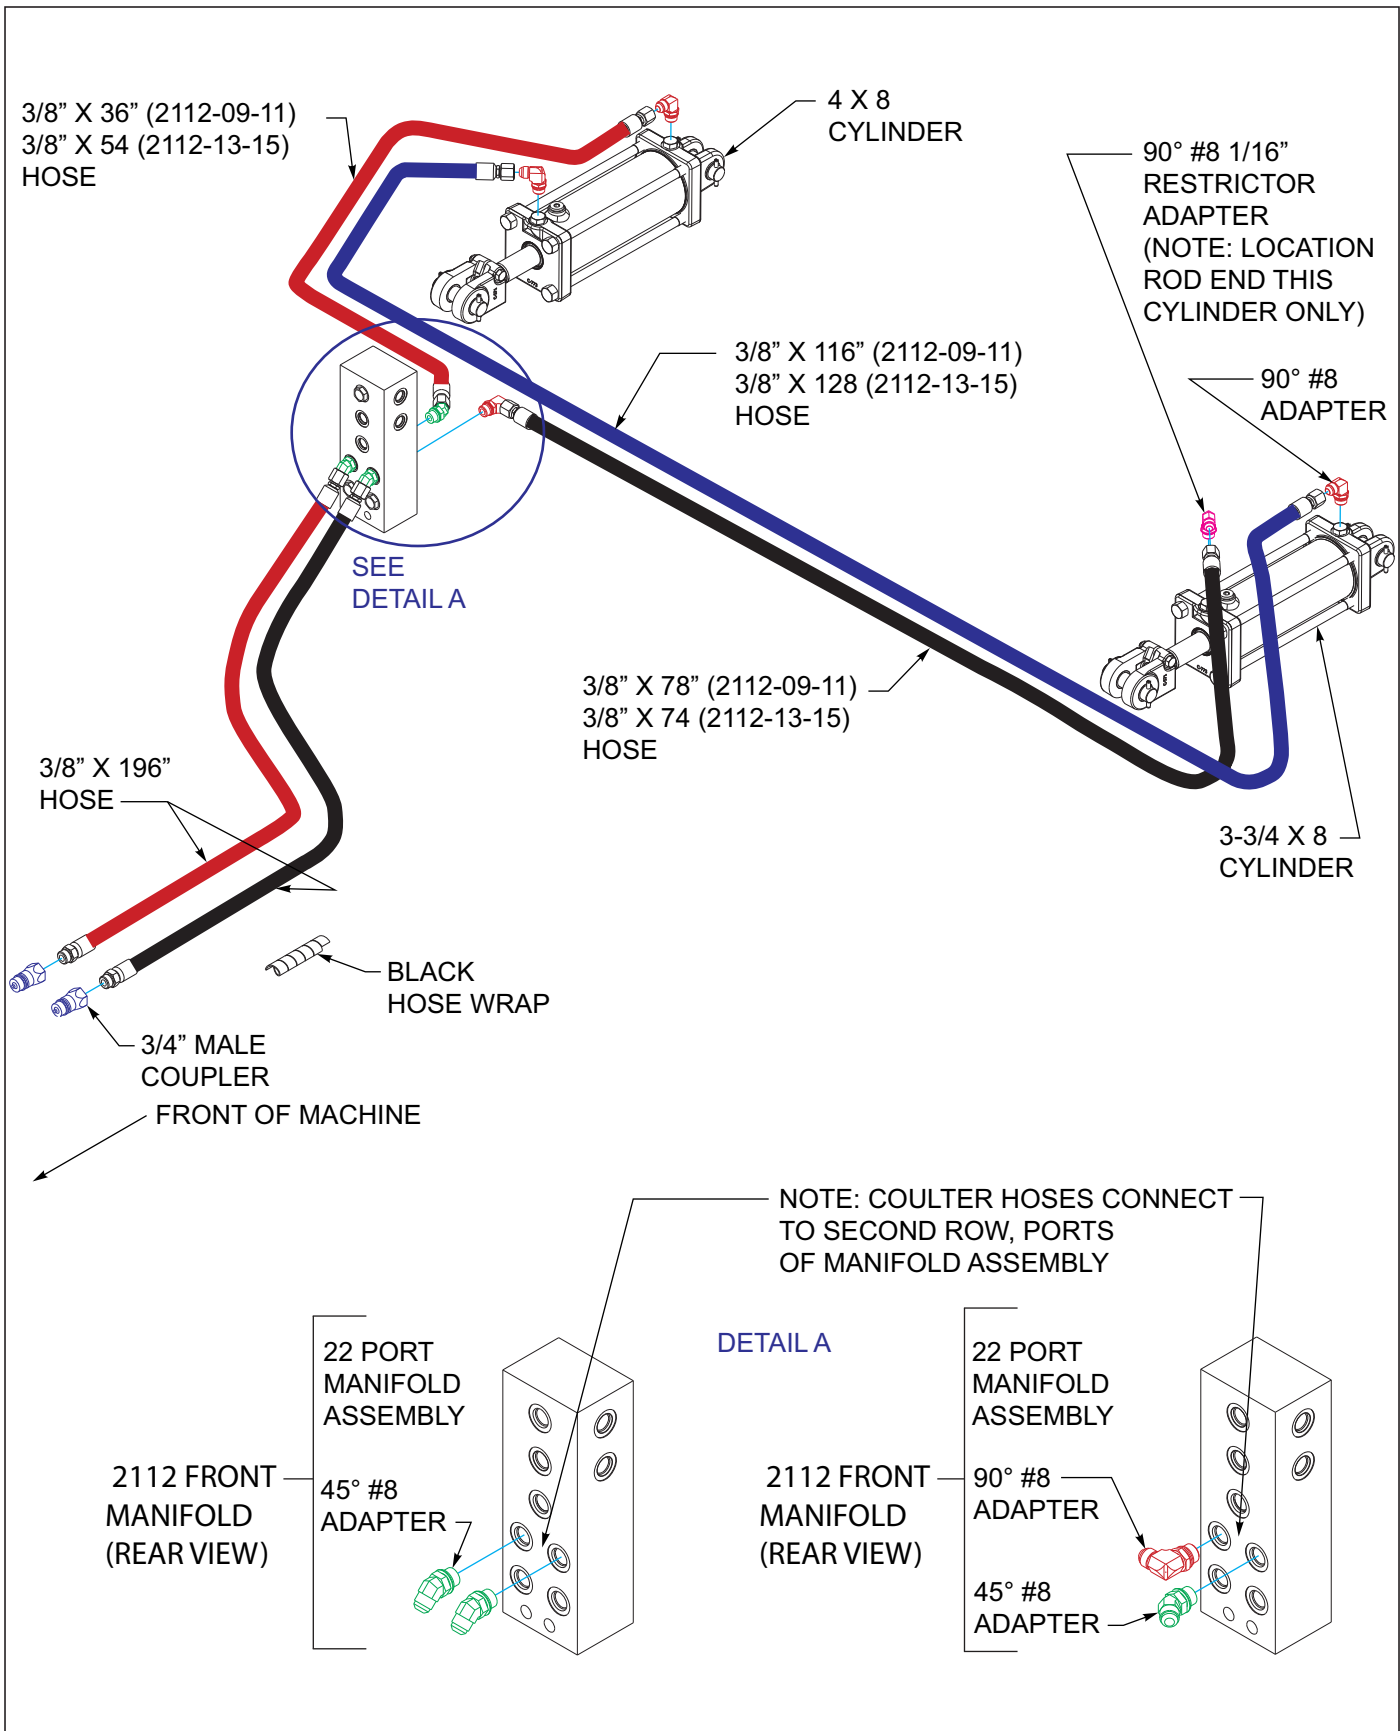
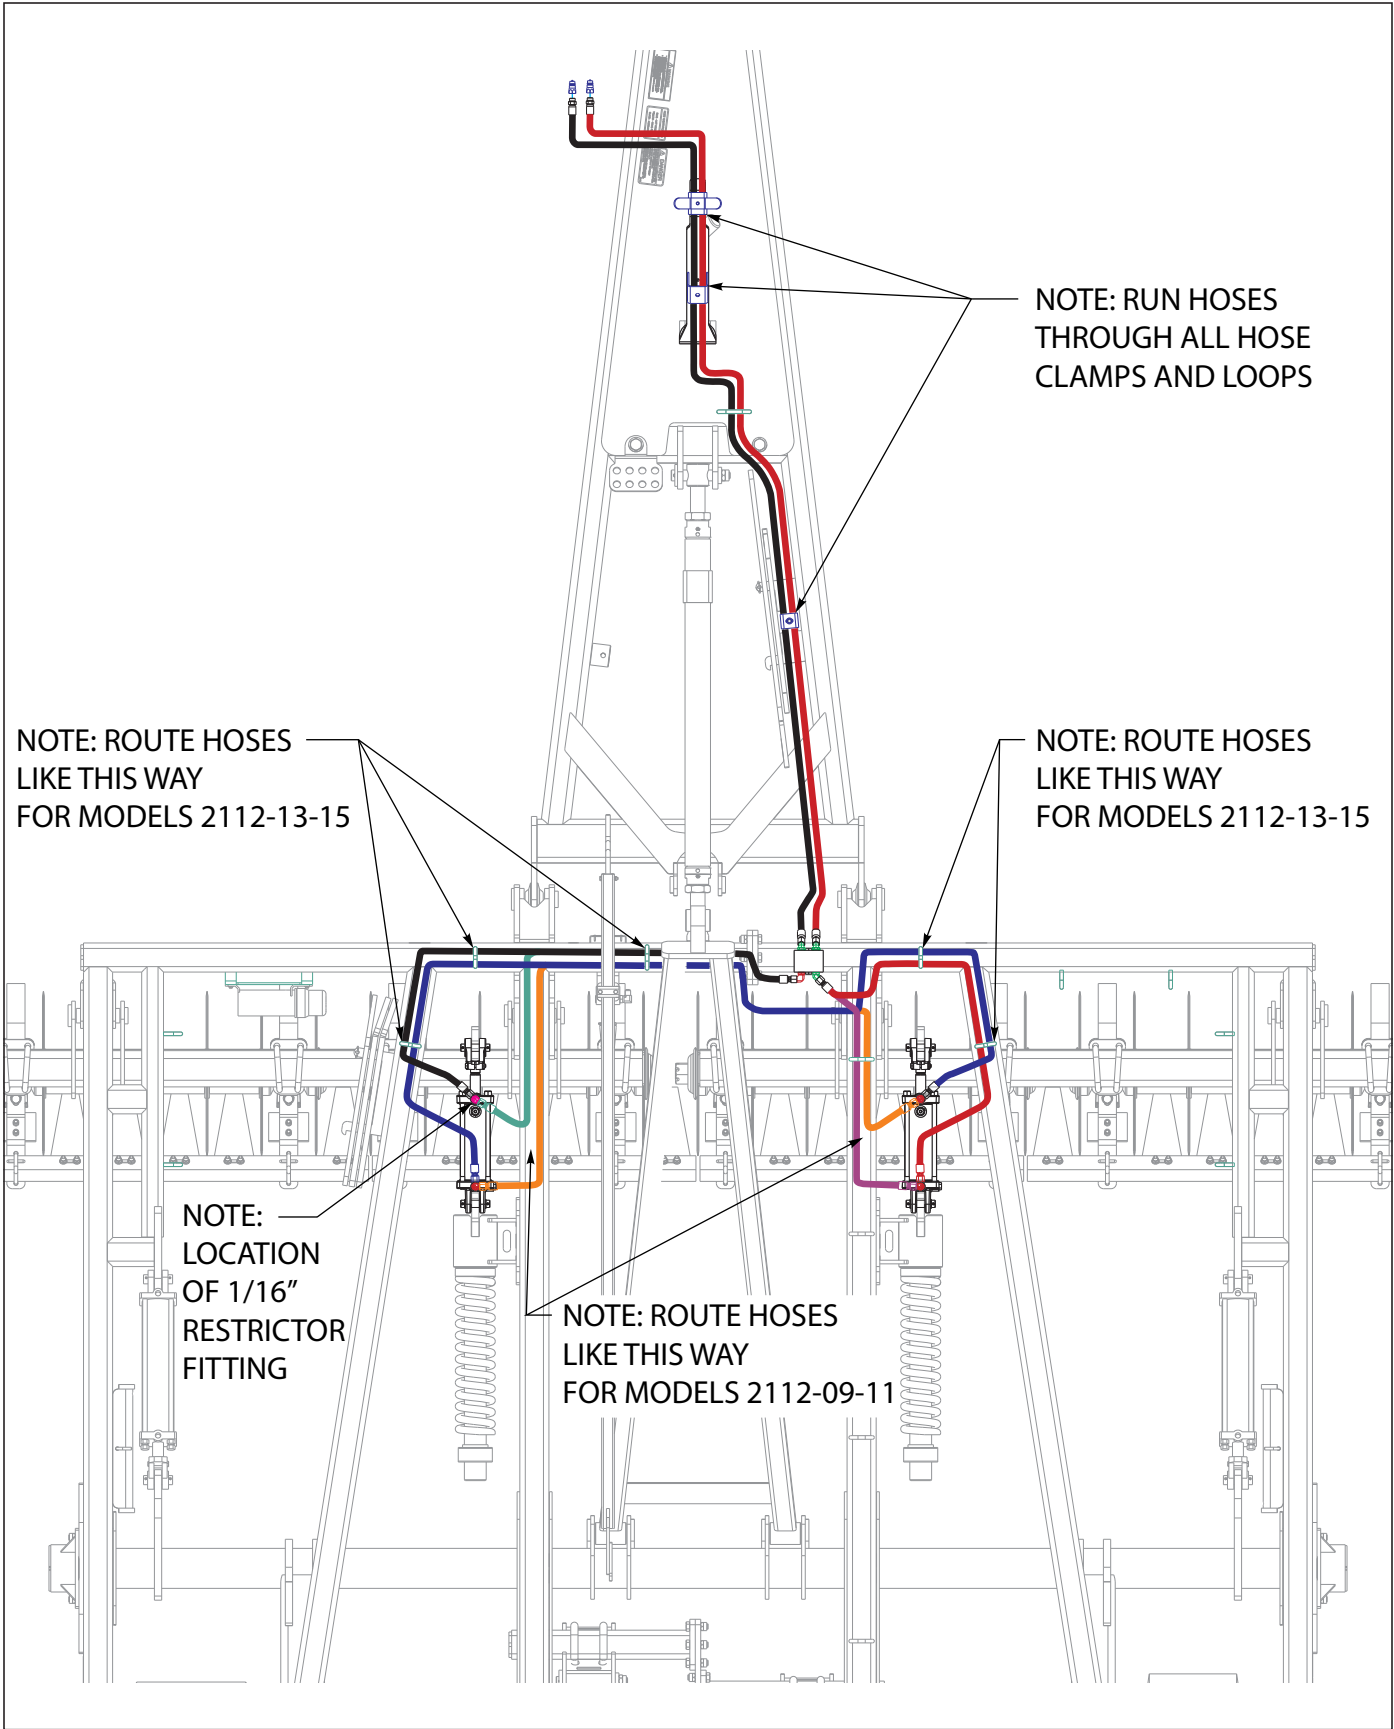

Figure 3-15: Coulter Gang Hydraulic Installation
Figure 3-16: Coulters Gang Hydraulic Layout
2. *See Figures 3-15* through *See Figures 3-16* for coultter hydraulic installation.